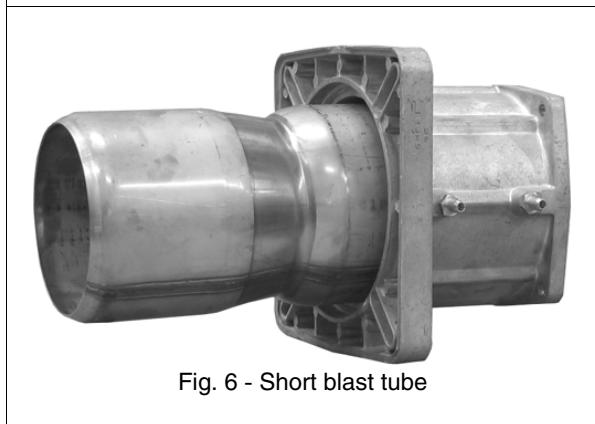
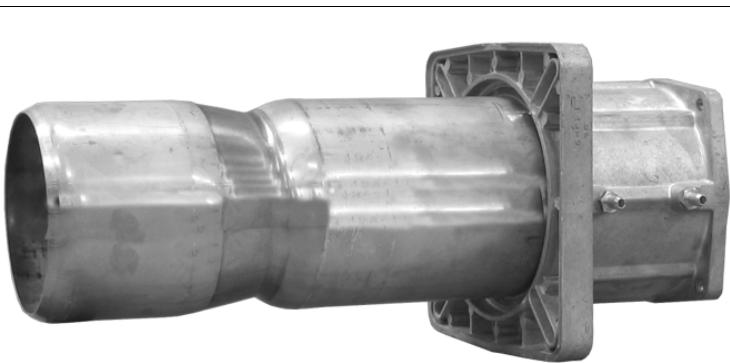
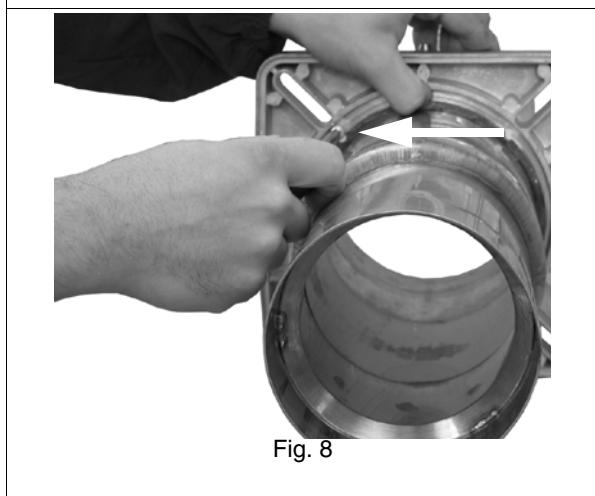

Fig. 6 - Short blast tube
Fig. 7 - Long blast tube
Fig. 8
- 4 Extract the blast tube from the flanged piece and assemble it in the other way round as shown in pictures Fig. 6 and Fig. 7. Now fasten the two pieces using the same screws (Fig. 8).